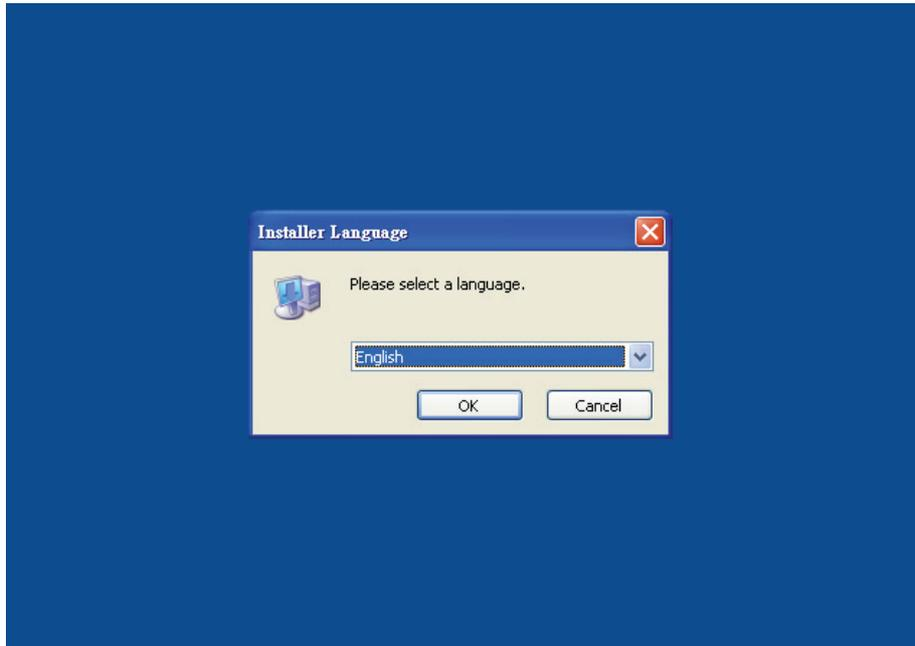

Fig. 2.1.2 Select Language
- Step 2: Execute **setup.exe** from Windows taskbar by clicking **“Start”** > **“Run”**. 3. After pressing **OK**, system will setup automatically and you will get the following dialog box to select the desired display language (Fig. 2.1.2).